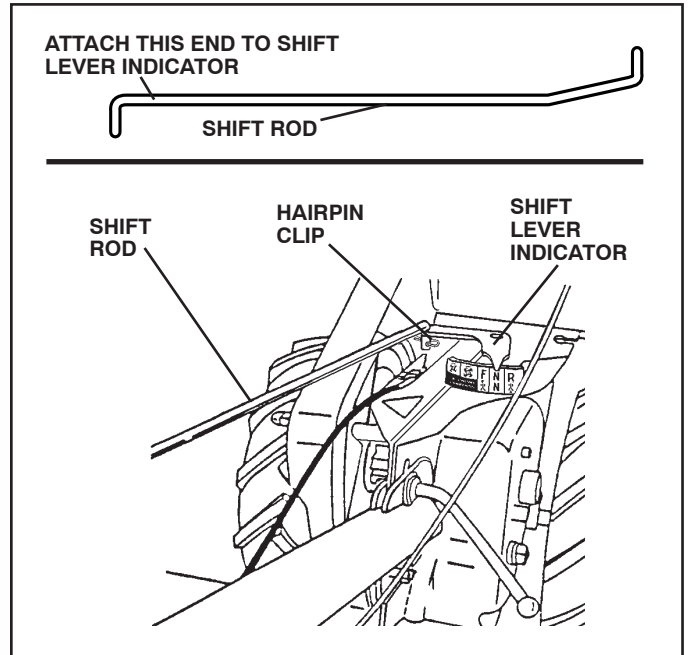

Fig. 7
## CONNECT SHIFT ROD (See Fig. 7)
- Make sure shift lever indicator is in "N" (neutral) position (See Fig. 7)